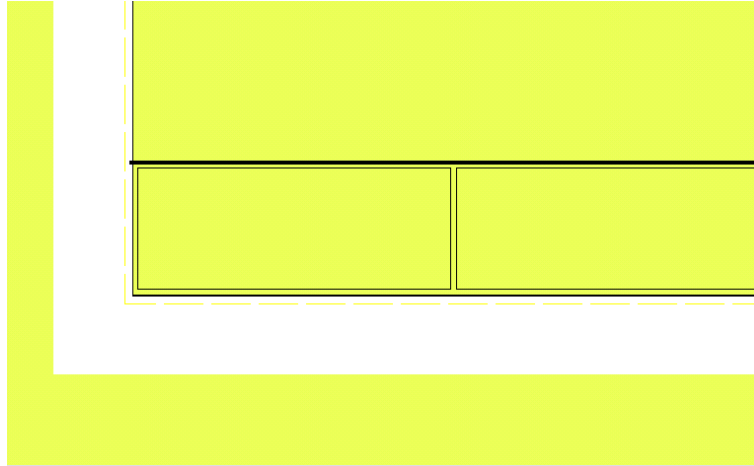

Figure 4-46
24. Make a copy of this rectangle to the right of the original. Select *Modify/Copy/Linear*, click on the rectangle and then click [OK] for **1** copy. Click on the top left of the rectangle and while holding the <Ctrl> key down, move the copy to the right of the original. Click to place the copy. (Holding the <Ctrl> key down while drawing an object activates the "Ortho Mode"). See Figure 4-46.